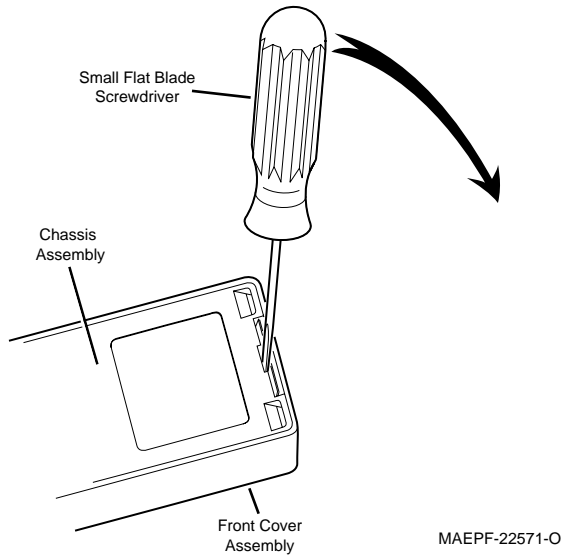

Figure 40-5.
5. Separate the front cover assembly from the internal electronics (chassis) (see Figure 40-5).